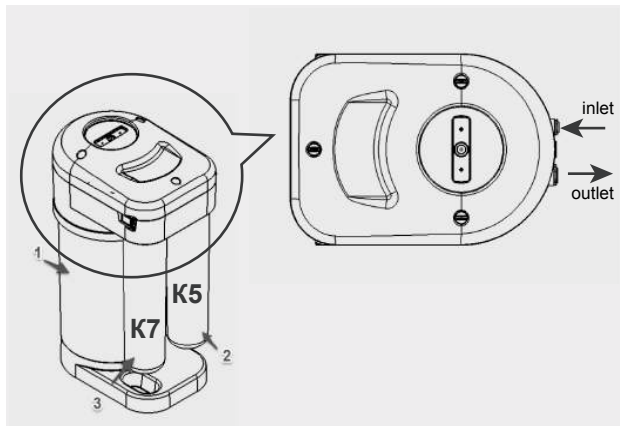

Fig. 2
- Install the filter modules K5 and K7 on the collectors according to Fig. 2.